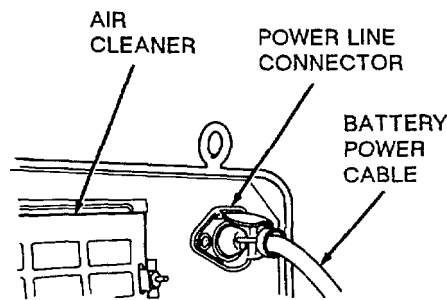

Figure 4-10- Power Line Connector
- (2) Disconnect battery power cable from engine cowling (see Figure 4-10).
- (4) Connect electrical line to engine cowling (see Figure 4-10).
- (5) Connect battery cables to engine.